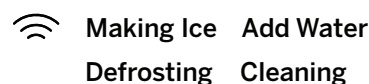

Figure 3
3. Water will begin circulating and the 'Cleaning' indicator will light up on the left-hand side of the unit to confirm the unit is now in cleaning process. See Figure 3. After a few minutes the water will stop and the 'Cleaning' indicator light will turn off.